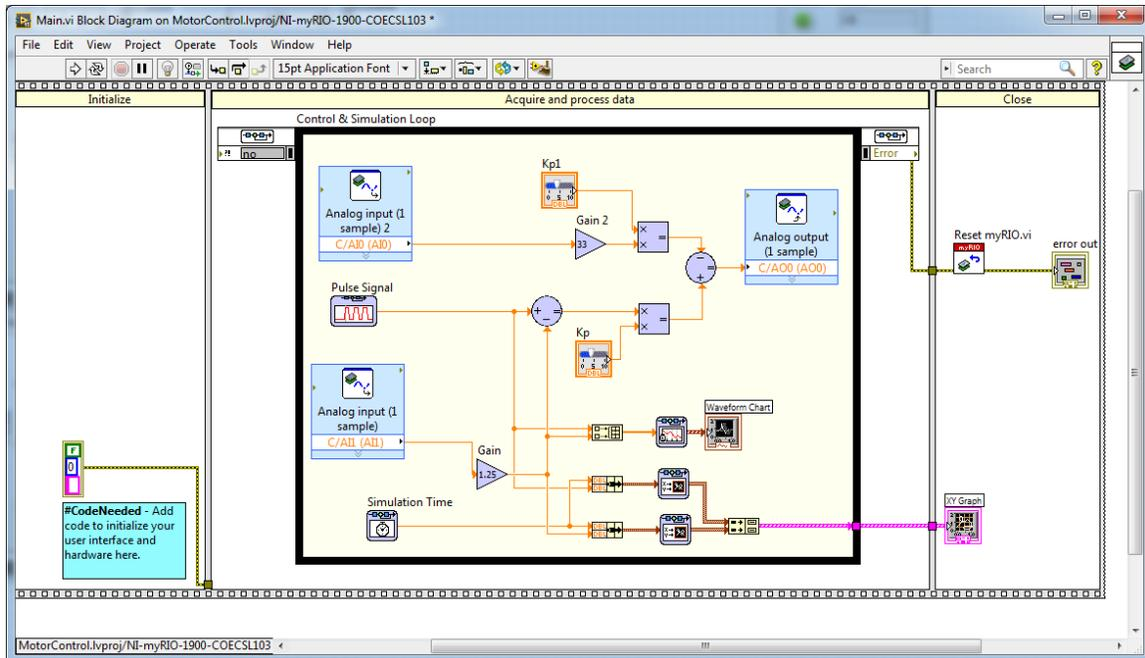

Figure 10: LabVIEW Block Diagram of the Proportional and Speed controller
Instead of differentiating the error to add a derivative term in the control law, you will use the tachometer feedback times a gain as the derivative term in your control. See Figure 10.
- Connect the blocks to match Figure 10.